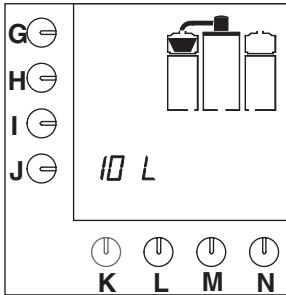

Fig. 7 Dripping-on time
- As soon as the coffee container has been filled, the filter pan flashes on the display for the dripping-on time (fig.7).